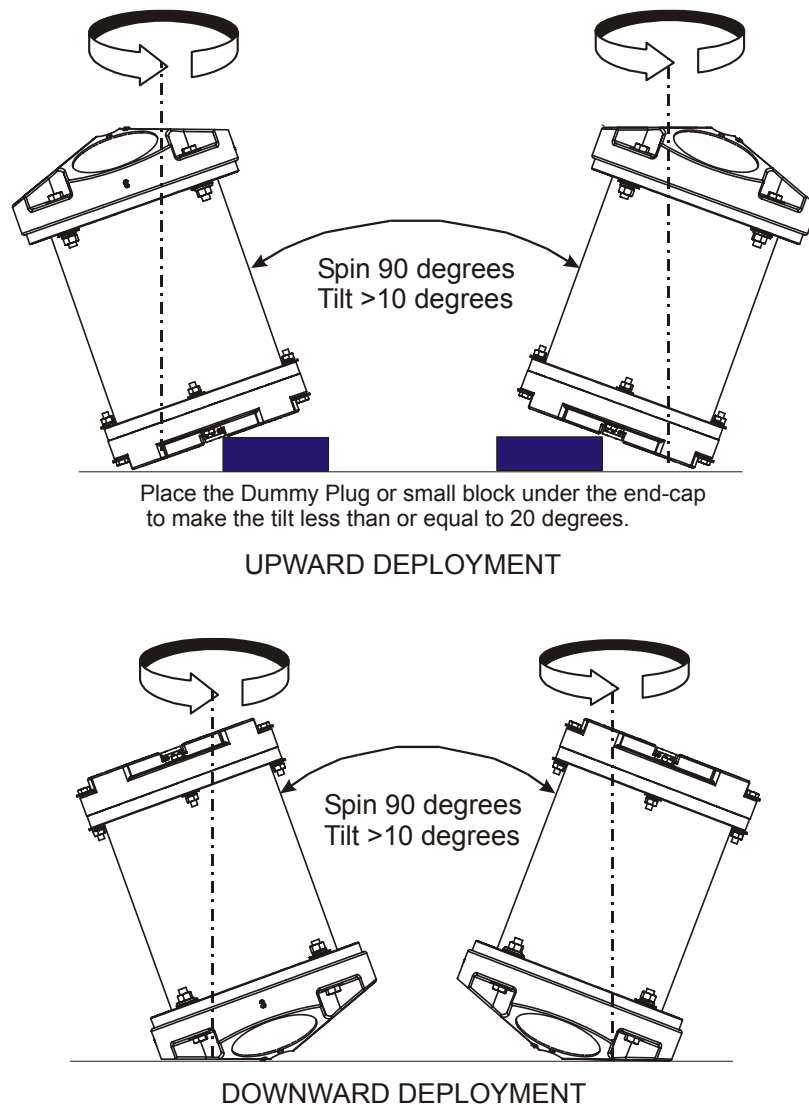

Figure 4. Compass Calibration
- d. Tilt the ADCP (see Figure 4, page 18). Tilt an upward-looking Workhorse with a block under one side of the end-cap. A 35-mm block will give you an 11-degree tilt. Check the on-screen instructions to see if the orientation is OK. Adjust as necessary.
- f. The second rotation requires the ADCP to be tilted 15 degrees in another direction than from the first rotation (see Figure 4, page 18). Follow the on-screen instructions to orient the ADCP correctly. When prompted, rotate the ADCP slowly 360 degrees (approximately 5 degrees per second).